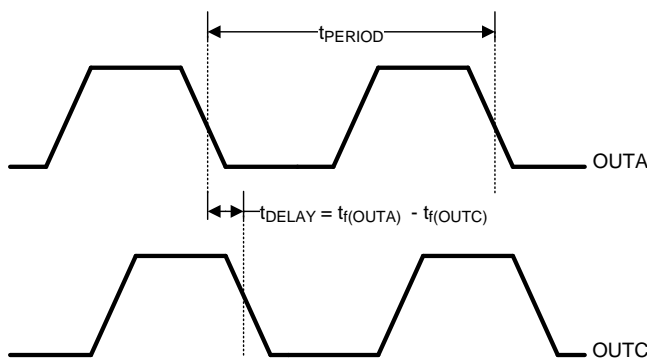

Figure 1. Same Applies to OUTB and OUTD
(2) Ensured by design. Not production tested.
(3) Output delay is measured between OUTA and OUTB, or OUTC and OUTD. Output delay is defined as shown below where:  $t_{f(OUTA)}$  = falling edge of OUTA signal,  $t_{r(OUTB)}$  = rising edge of OUTB signal (see Figure 1 and Figure 2).
(6) Output delay is measured between OUTA and OUTB, or OUTC and OUTD. Output delay is defined as shown below where: tf(OUTA) = falling edge of OUTA signal, tr(OUTB) = rising edge of OUTB signal (see Figure 1 and Figure 2).